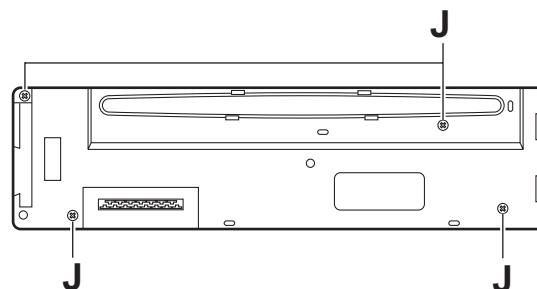

Fig.8
(See Figs.8 to 10)
- (1) Remove the four screws **J** on the back side of the front panel assembly. (See Fig.8)